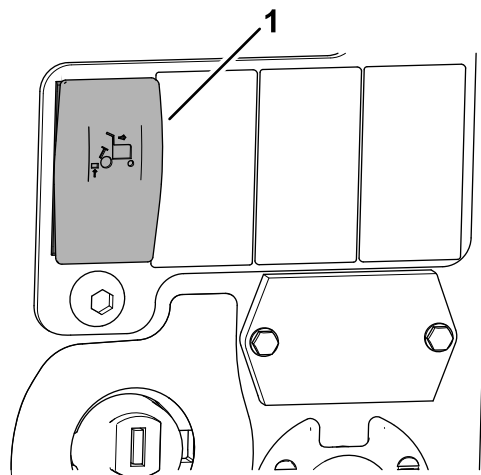

Figure 7
- To enable auto reverse-limited lift, press the top of the auto reverse limited-lift switch (Figure 7).